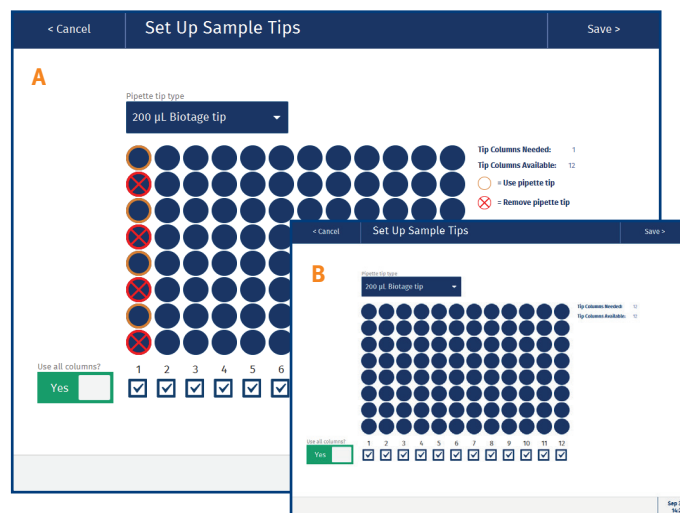

Figure 41. The Set Up Sample Tips view when running individual samples (A) and when running whole plate/rack columns (B).
16. Press the illustration of the sample pipette tips in the **Prepare Run** view (position 2) and ensure that the **Set Up Sample Tips** view (see Figure 41) corresponds to the physical pipette rack in position 2 on the working area.